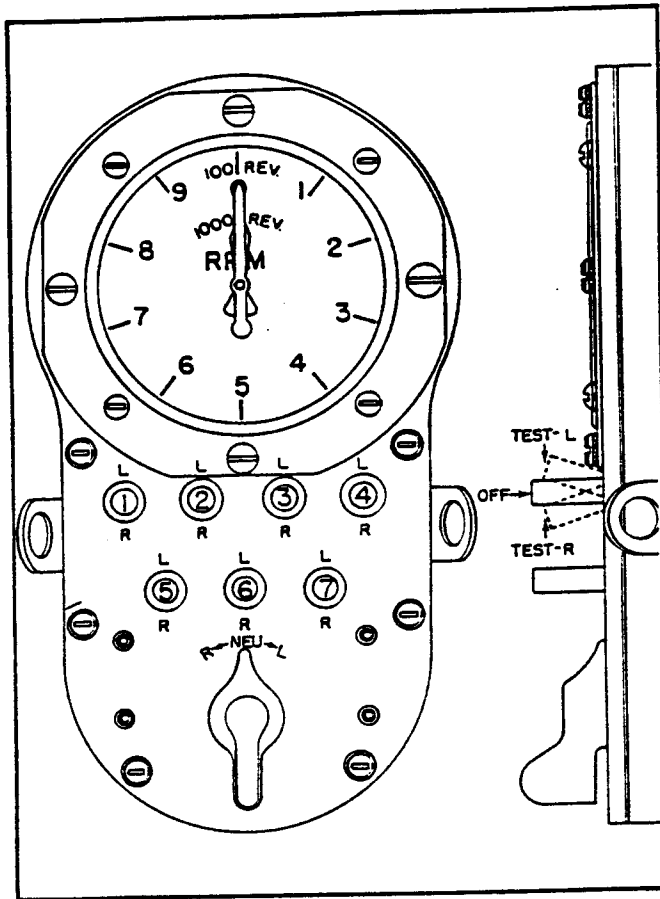

Figure 23. Magneto Test Diagram
(9) INDIVIDUAL TEST OF MAGNETOS. (See figure 23.)- With switch in the neutral position, short out the No. 1 magneto in the left bank by pushing upward "L". Note tachometer reading. Continue test with other numbered levers.
(10) BANK TEST AND MAGNETO TEST BY BANKS OF SEVEN.- Turn switch from neutral to "R", thereby shorting right bank. Then push lever No. 1 upward to "L" causing "L" bank No. 1 magneto to short. Continue test with other numbered levers. Proceed in reverse for right bank, that is, turn switch to "L" and push buttons down to short "R" magnetos.